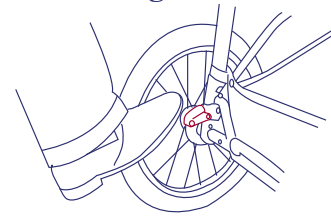

Figure 15.
- To engage brakes, apply light downward pressure to the brake lever located on each rear wheel. The stroller may require slight forward or rearward movement in order to line up the teeth on the brake with each wheel brake cluster. See figure 15. Check that the stroller will not move and that both brakes are properly applied. To release, gently lift up on the brake lever.